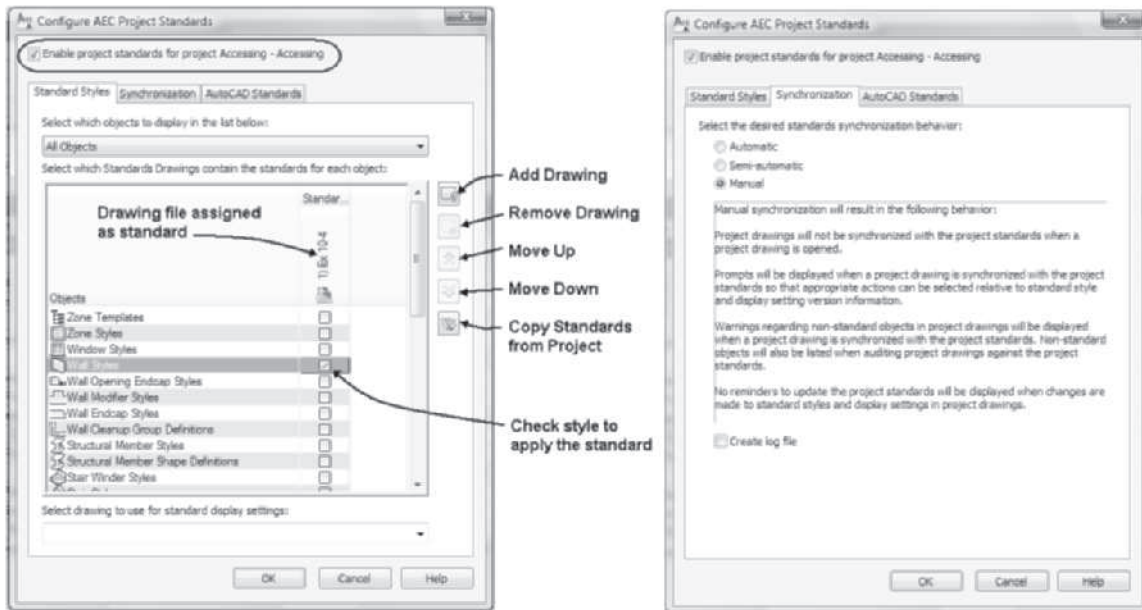

FIGURE 10.37 Synchronization tab of Configure AEC Project Standards
2. Click the Add Drawing button as shown at the right in Figure 10.37. Select the standard drawing identified in step 1 from the Select Standards Drawing dialog box. The drawing may reside within the project folder *Standards\Content* or at a location within a network.
3. The drawing specified is listed in the Standards Drawings column shown in Figure 10.37. Select the header of the drawing column, right-click, and choose Select Column to specify all styles of the drawing to serve as a standard.
4. Select the Synchronization tab and choose the synchronization behavior as shown in Figure 10.37.